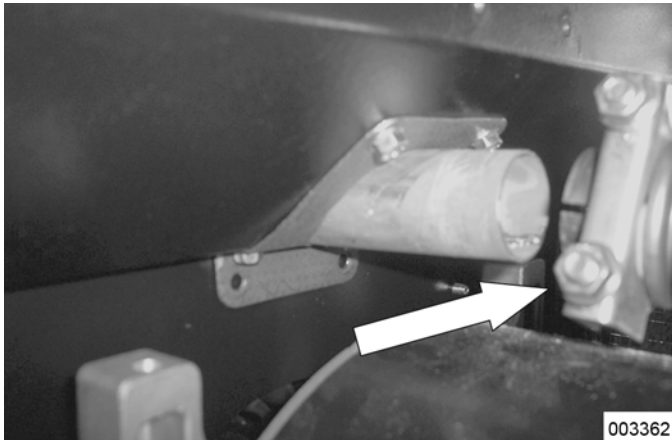

Figure 5-49.
4. **Remove Exhaust Flex Pipe:** See Figure 5-49. Use a ½" socket to remove the front and rear muffler clamp. Slide exhaust flex toward engine to completely expose the muffler flange.